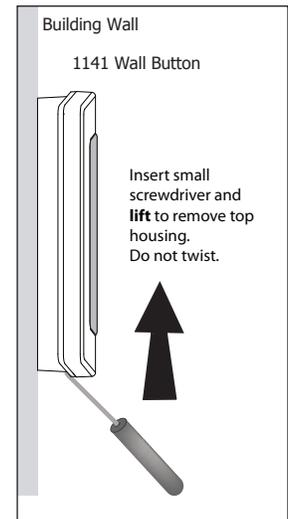

Figure 6: Removing the Top Housing
1. Insert a flat screwdriver into the slot on the bottom of the 1141 housing and gently lift the screwdriver handle while pulling the halves apart. See Figure 6.
1. Remove the top housing containing the button and internal assembly. Insert a flat screwdriver into the slot on the bottom of the housing and gently lift the screwdriver handle while pulling the halves apart. See Figure 6.